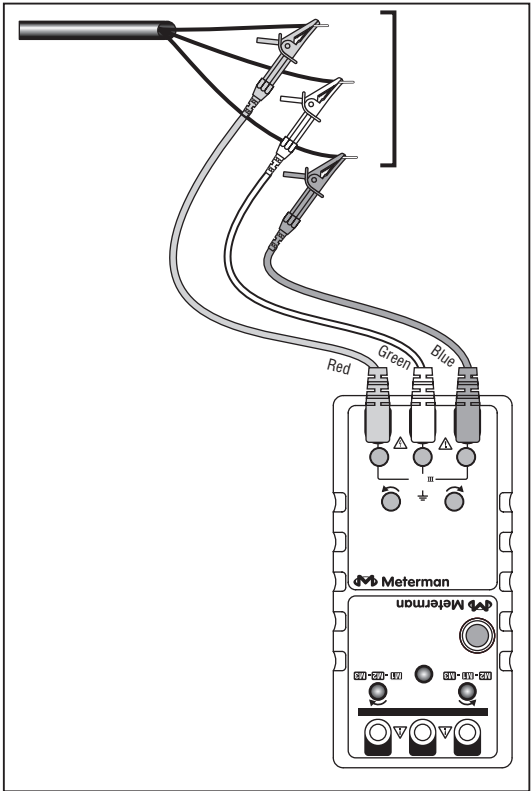

Figure 1
1. Connect the three color coded test leads to the 3-phase input terminals, L1 (Red) - L2 (Green) - L3 (Blue) also know as A-B-C or R-S-T. See Figure 1.